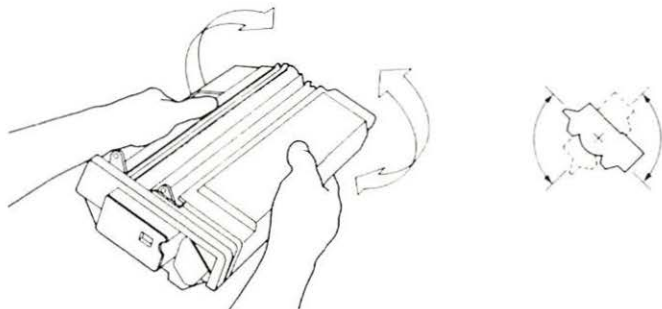

FIGURE 1-8
1. When installing a cartridge, hold it horizontally and rock it slowly back and forth 45°, to distribute the toner. (See Figure 1-8.)
CAUTION: To avoid toner spillage after a toner cartridge's seal is broken, hold it by the handle and rear only, as shown in Figure 1-8.